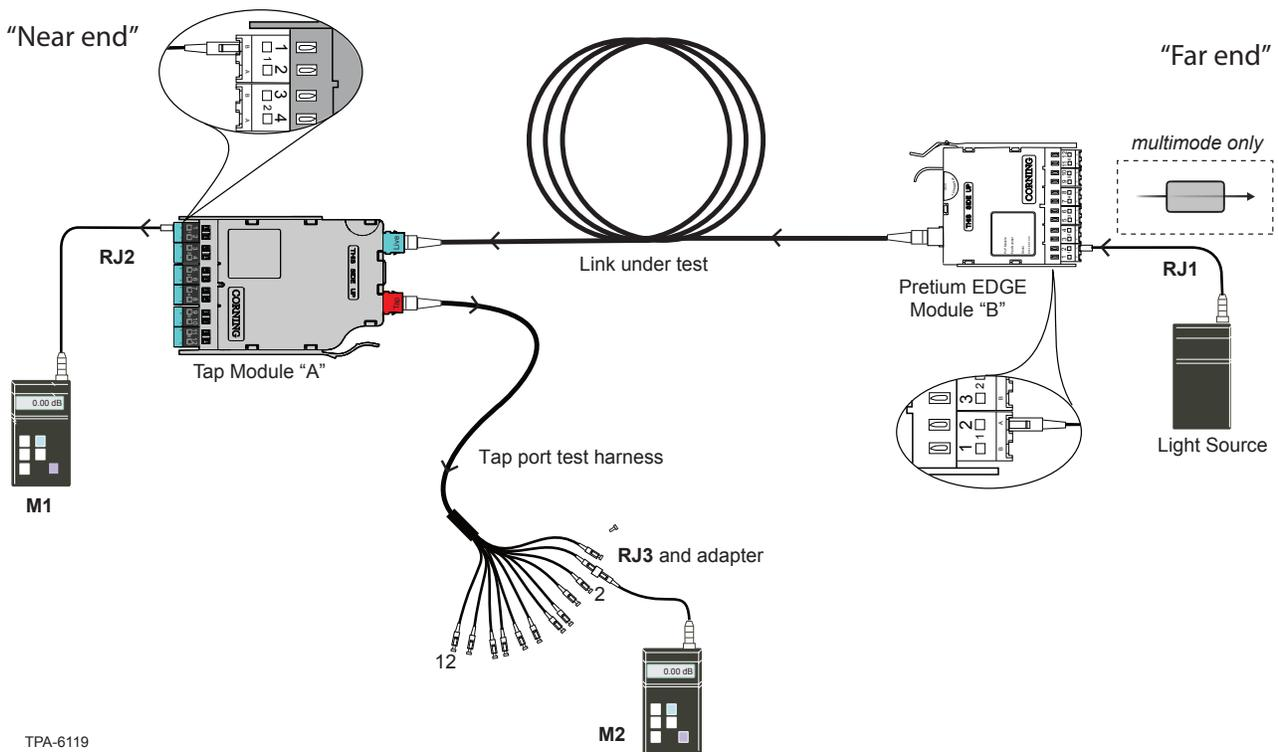

Figure 12
9.3 Table 3 provides a complete guide to the testing sequence for testing with the Light Source at the “B” module (“Far end”) and a meter at Tap module “A” (“Near end”) of the system as shown in Figure 12.
9.4 To test the odd-numbered ports at the front of the Tap Module, switch the “Near” and “Far” locations of the **Light Source/RJ1** and **M1/RJ2**. At the end of the Tap cable assembly, move the LC adapter on **M2/RJ3** to connector number 2 (Figure 12).